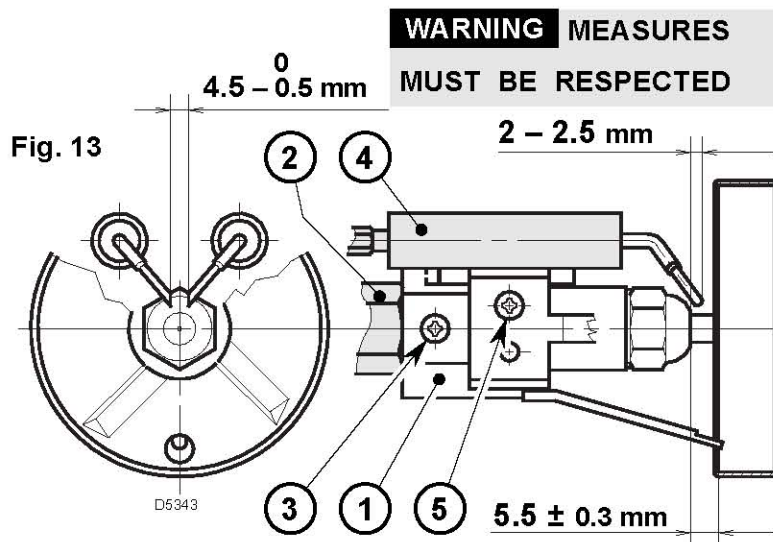

Fig. 13
- Hook the burner to the flange (1), by removing the blast tube (2) after loosing the fixing screws (3).
- Remove the small cables (4) from the electrodes and the diffuser disc-holder assembly (5) from the nozzle-holder assembly after loosing its fixing screw (3, fig. 13, page 7).
- Screw the nozzle (6) correctly and tighten it as shown in the figure.
- Withdraw the small cables (4) from the electrodes, remove the diffuser disc-holder assembly (9) from the nozzle-holder assembly (1) after loosening screw (3, fig. 13).
- **Screw the nozzle (10) correctly and tighten it as shown in figure.**
4.2 ELECTRODES ADJUSTMENT (see fig. 13)